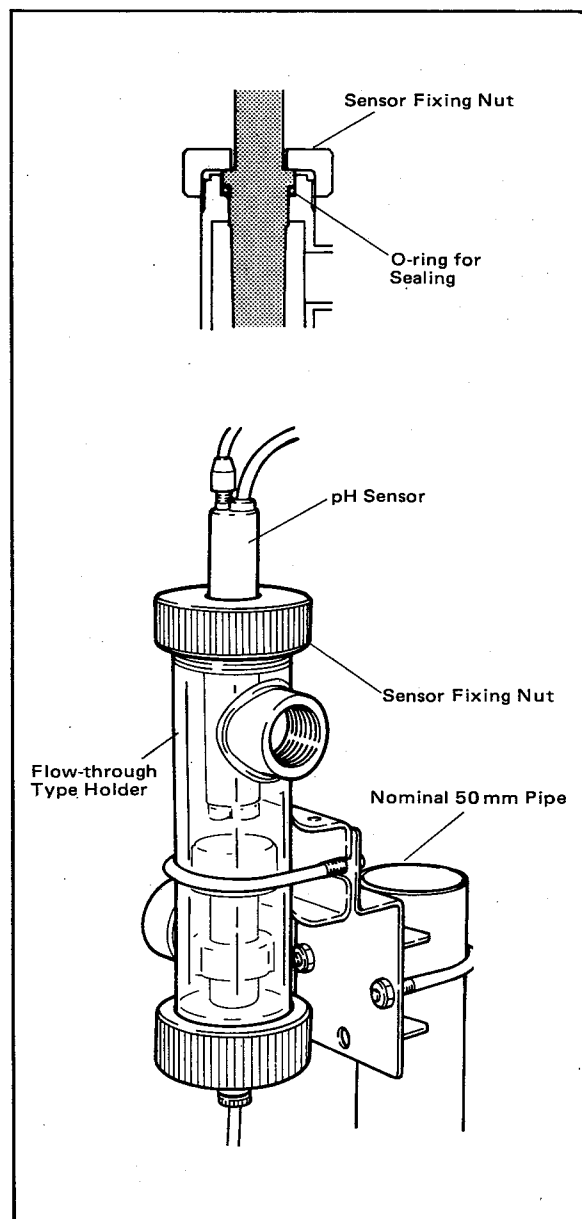

Figure 2-11. Sensor Installation (Flow-through Type).
- (5) Fix the pH sensor in the holder. Remove the sponge (part for shipment, this is not necessary after the sensor is installed in the holder) from the holder. Insert the sensor tip into the holder and tighten the sensor fixing nut securely (see Figure 2-11).